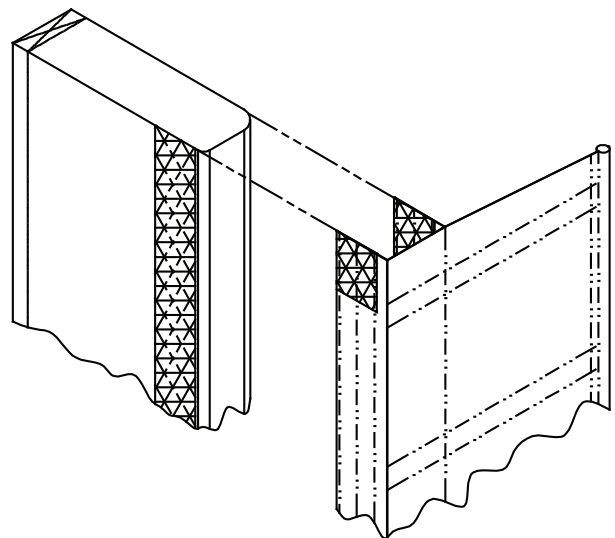

FIGURE 1
1. Align top edge of side curtain to top edge of side frame at the same time aligning the velcro flap on the outside of the side curtain to the velcro on the outside of the side frame. (See Figure 1)